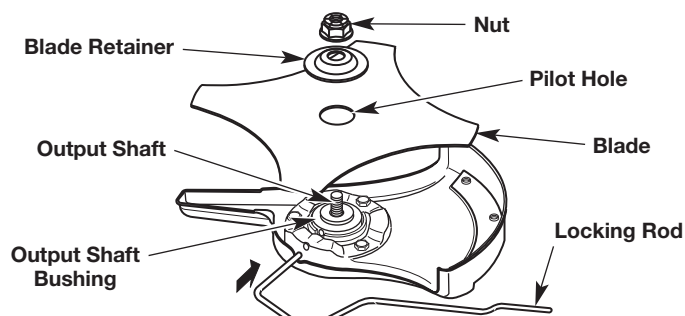

Fig. 16
4. While holding the locking rod in place, put the blade on the output shaft bushing (Fig. 16).
**WARNING:** To avoid serious personal injury, make sure that the pilot hole on the blade is sitting flat against the output shaft bushing (Fig. 16). The unit will vibrate and the blade may fly off if the blade is not centered.
5. Place the blade retainer on the output shaft with the flat surface against the blade (Fig. 16).
6. Screw the nut onto the output shaft (Fig. 16).